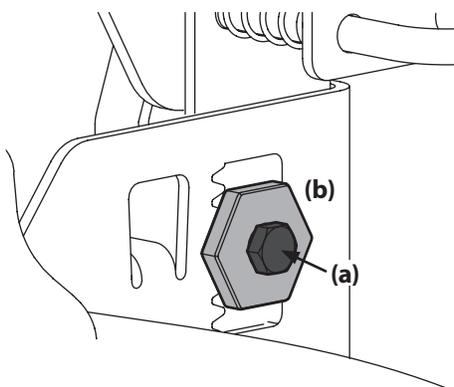

Figure 4-5
3. Loosen, but do NOT remove, the hex bolt (a) on the rear left deck hanger link. See Figure 4-5.
4. Using a wrench, raise or lower the left side of the deck by turning the adjustment gear (b). See Figure 4-5.